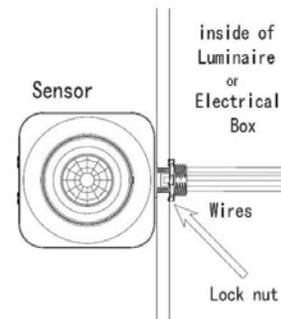

Fig. 2A
2. Slide the lock-nut over the wires and thread clockwise on to the threaded nipple to secure the sensor firmly in place making sure the lens is orientated towards the area to be monitored (field-of-view). (Fig 2A)